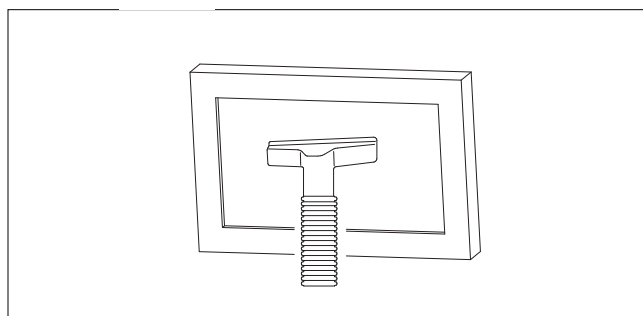

Fig. 8.g
- Clean the heat exchanger every year with a vacuum cleaner. This may differ per situation depending on internal and external environmental conditions and on frequency of filter cleaning (Fig. 8.e-f-h-i-j-k-l).